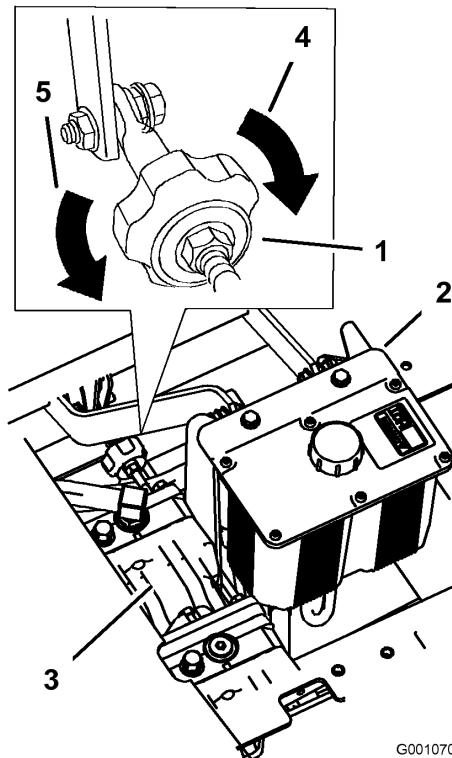

Figure 42
4. To make the machine go right, turn the knob towards the rightside of the machine. Refer to Figure 42.
5. To make the machine go left, turn the knob towards the leftside of the machine. Refer to Figure 42.